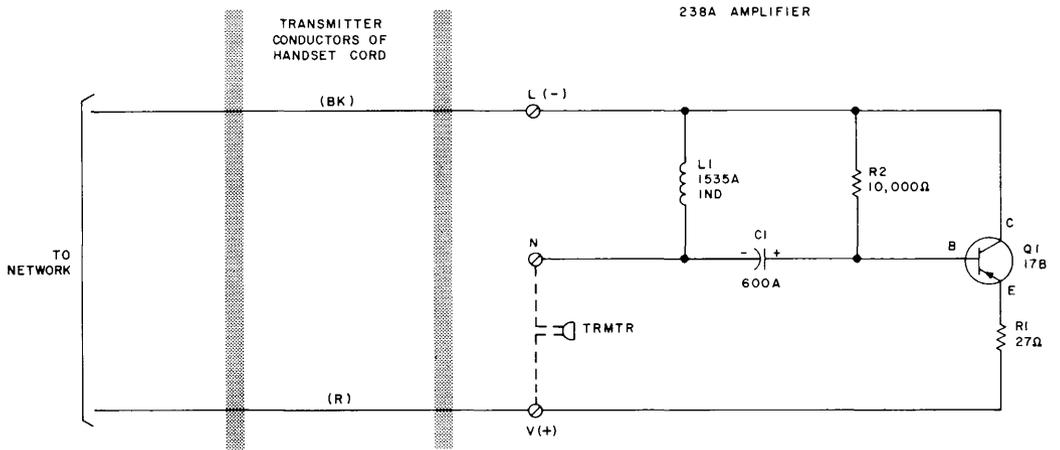

Fig. 4—238A Amplifier Schematic, Typical Connections
- Tip party: R to V, BK to L (Fig. 4, 5, or 6)